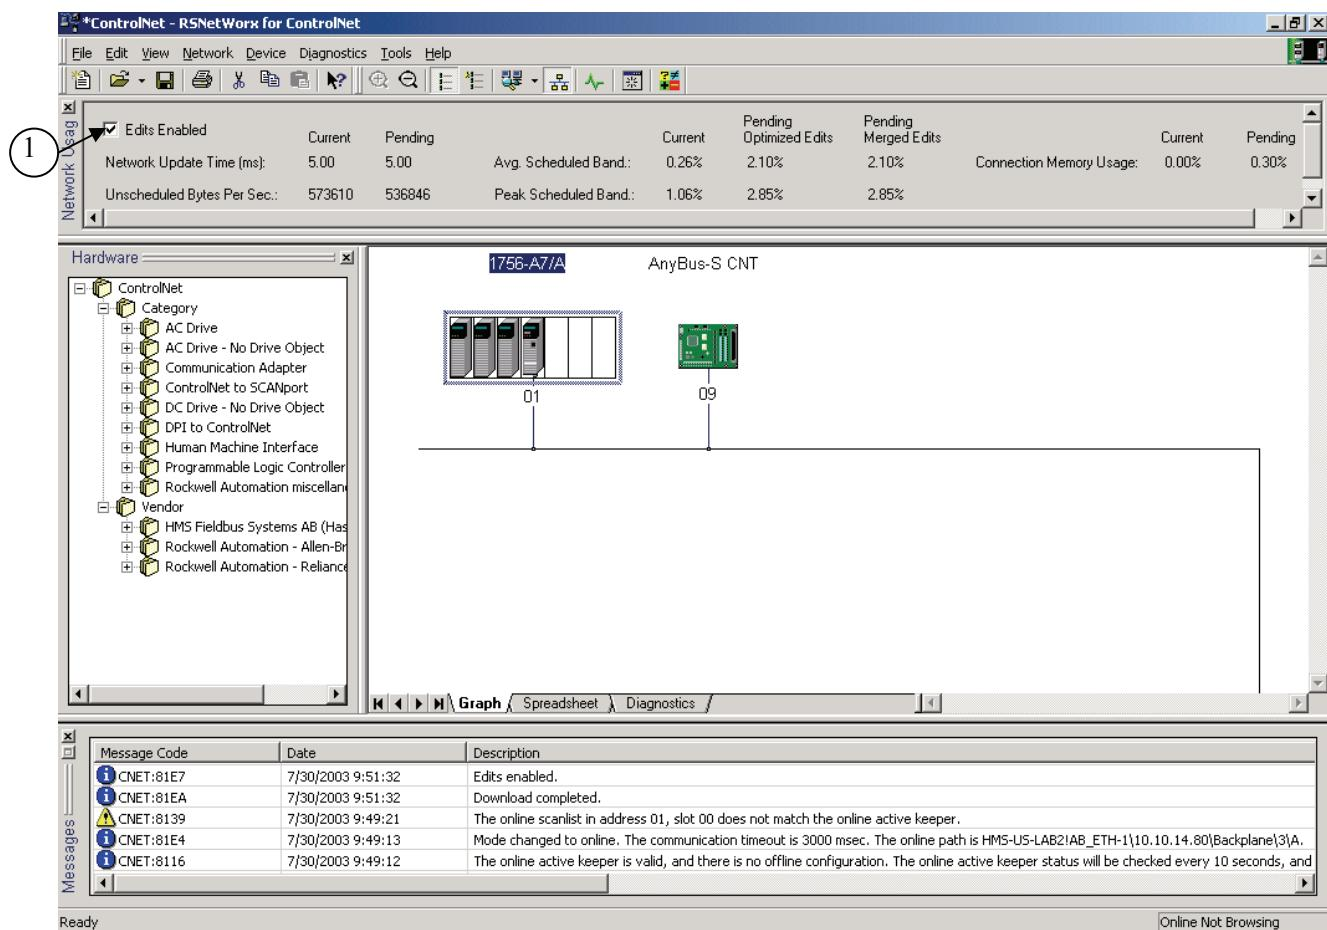

Figure 22 The network after complete configuration.
Now select “Edits Enabled” ① as shown in Figure 22, this will show the window below. Click on OK, the offline configuration will now be downloaded to the keeper.